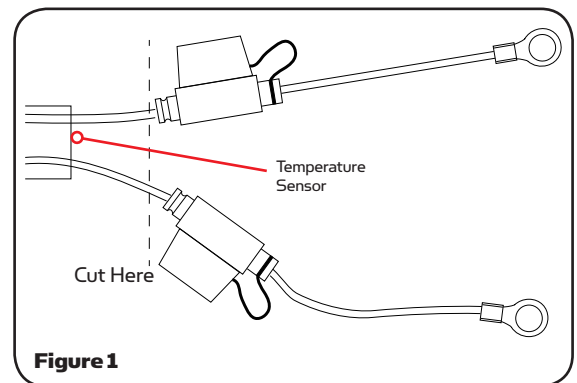

Figure 1
**NOTE:** Some output cables will have a temperature sensor in the cable covered by heat shrink. You must cut above the temperature sensor to avoid damaging the sensor (see Figure 1).